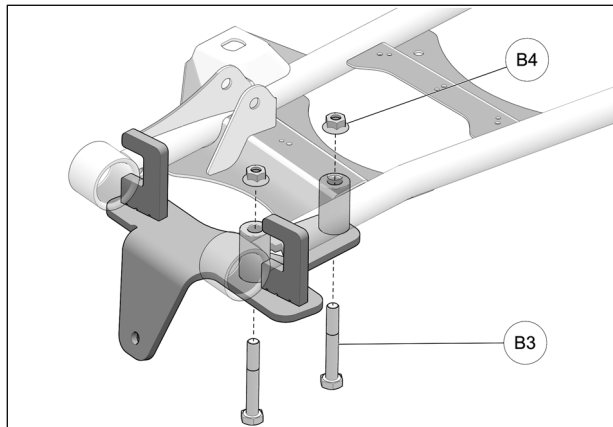

Fig. 5
6. Insert M10x70 mm bolts (**B3**) through anchor bracket and spacer bushings, and also through hole in suspension arm reinforcing plate to secure the back of the bracket. Use the flange nuts (**B4**) provided to assemble the parts together. Torque to 50 N•m [37 lb•ft]. See Fig. 5